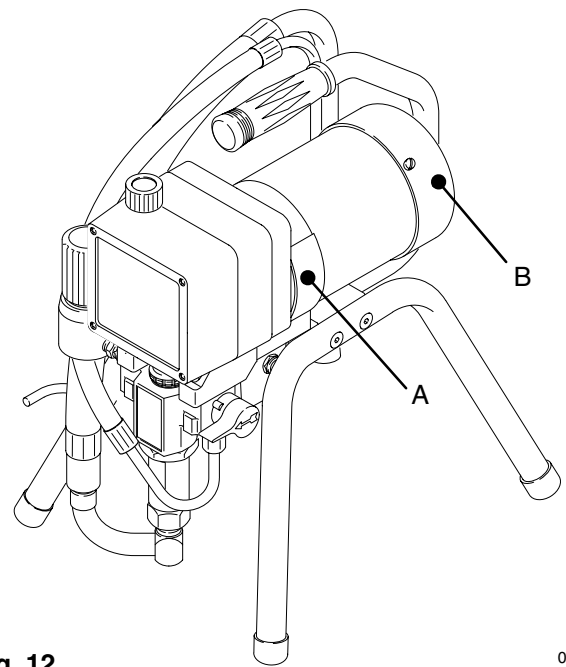

Fig. 12
Remove the motor brush inspection covers (A). See Fig. 12.
Remove the handle (24) and the fan cover (B). See Fig. 12.